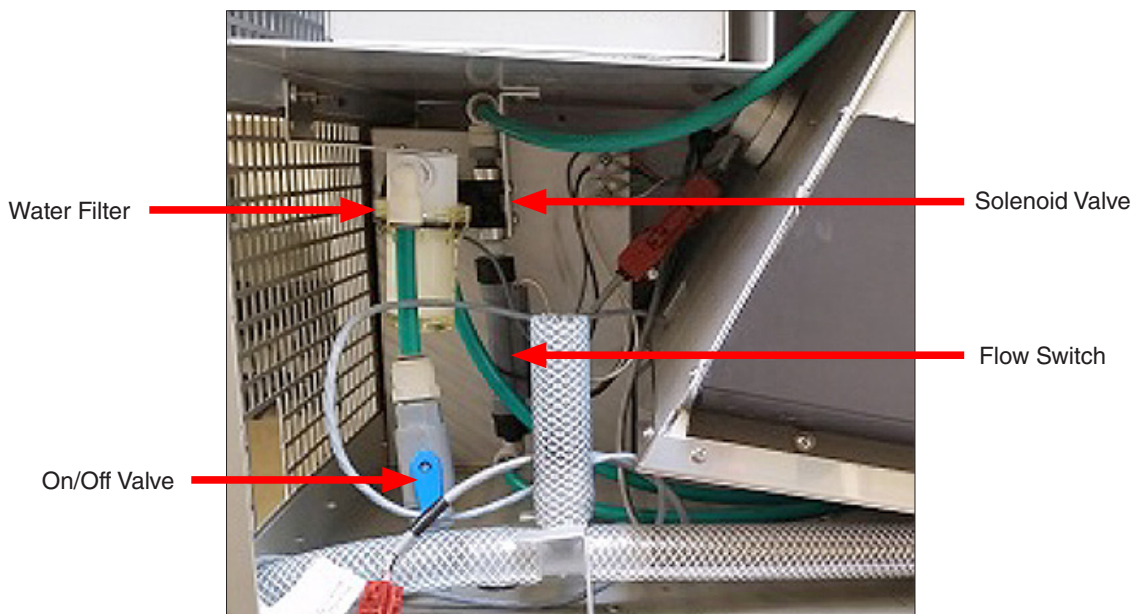

Figure 8d: Left side access panel removed to show spray system components.
- Located behind test chamber (Figure 8d)